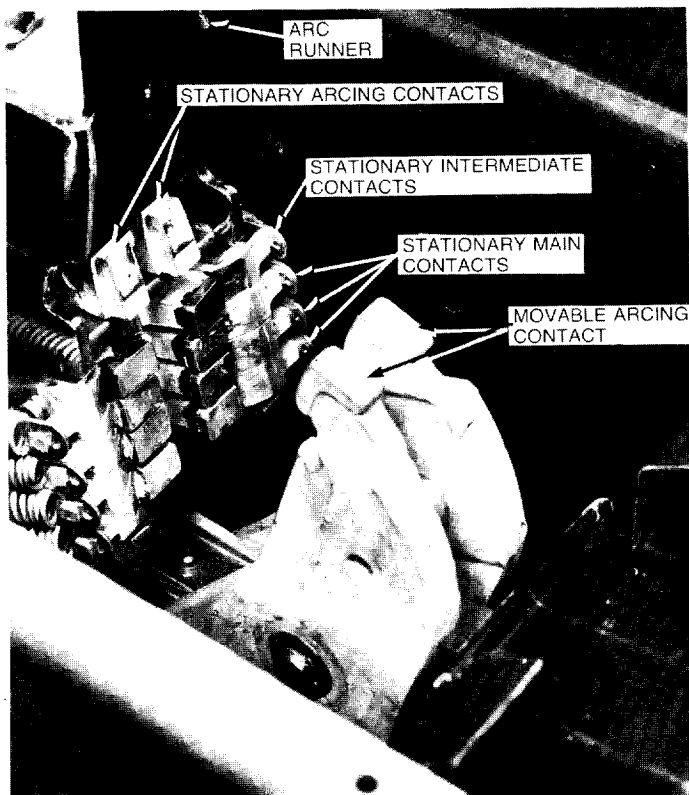

FIG. 47 — 1600 AMP CONTACT STRUCTURE
The contact breaker shown in Fig. 47 is used by AKR30L and all AKR50 breaker types. This structure uses two movable contact arms. Each arm acts against a stationary arcing, a stationary intermediate and three stationary mains.
6. Facing the breaker, turn the wipe adjustment stud shown in Fig. 47 clockwise until the checker indicates that the main contacts are separated.